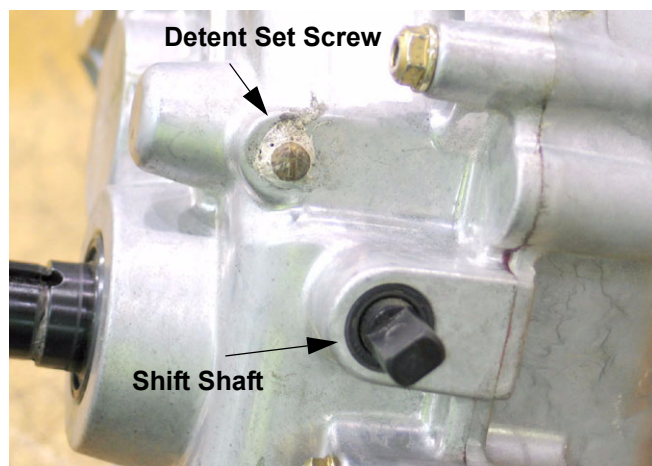

Figure 10.9
- 10.9. The F-N-R shift shaft is located on the front surface of the housing. A 5/16" wrench spans the flats of the double-D shaft, and can be used in place of the shift wedge. See Figure 10.9.